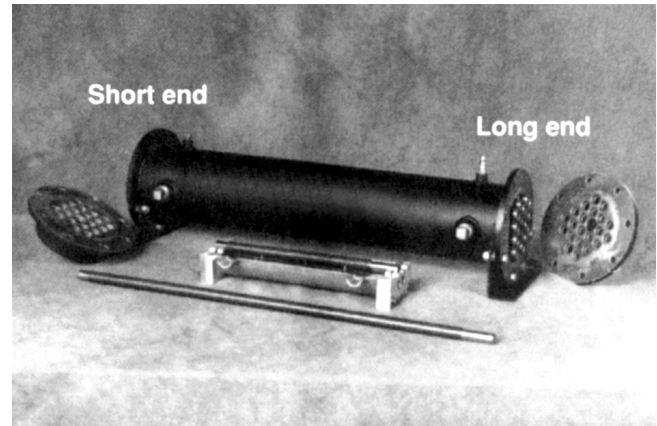

Figure 1
3. To access the cooler tubes, remove the end cap and retainer plate from each end of the transmission cooler. In many cases, the retainer plate is integral to the end cap (see Fig. 1).
NOTE: THE COOLER ASSEMBLY HAS THE LETTERS "L" AND "S" STAMPED ON OPPOSITE ENDS OF THE SHELL. THE "L" DESIGNATES THE END OF THE COOLER WHERE THE LONG UNFINNED PORTION OF THE TUBE IS LOCATED. THE "S" DESIGNATES THE END OF THE COOLER WHERE THE SHORT UNFINNED PORTION OF THE TUBE IS LOCATED (SEE FIG. 1).